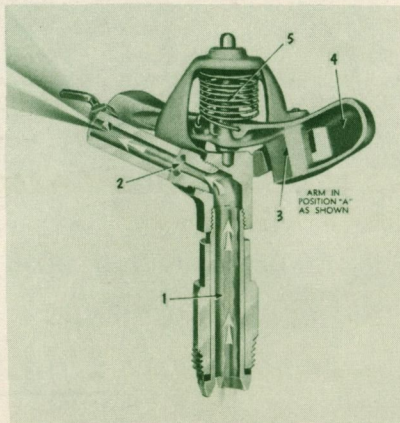
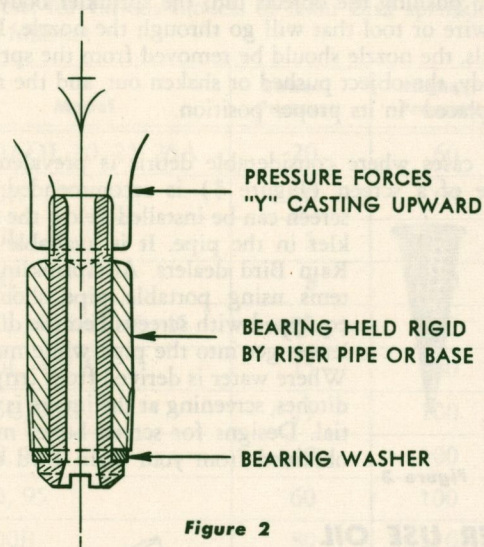

Figure 1
Figure 2
As indicated by the direction of arrows in Figure 1, the water passes through the body (1), then through the nozzle (2), back of the sloping vane (3) and into the front of the spoon (4). The pressure of the water drives the arm out of the stream and away from the nozzle, to position A; the tension of the arm spring (5) then pulls the arm back into the original position and, at the same time, causes the sprinkler to turn. The impact is accentuated by the thickness and slope of the outer edge of the vane (Figure 2); this causes the stream to exert pressure on the vane.